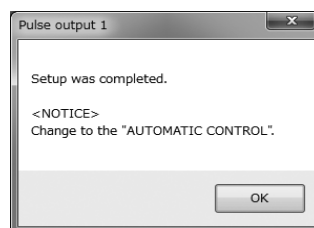

Fig.47
- ⑤ Click "OK" to change the settings to the inputted values, and then click the "OK" button in the displayed message box (Fig. 47) to complete the setting process.